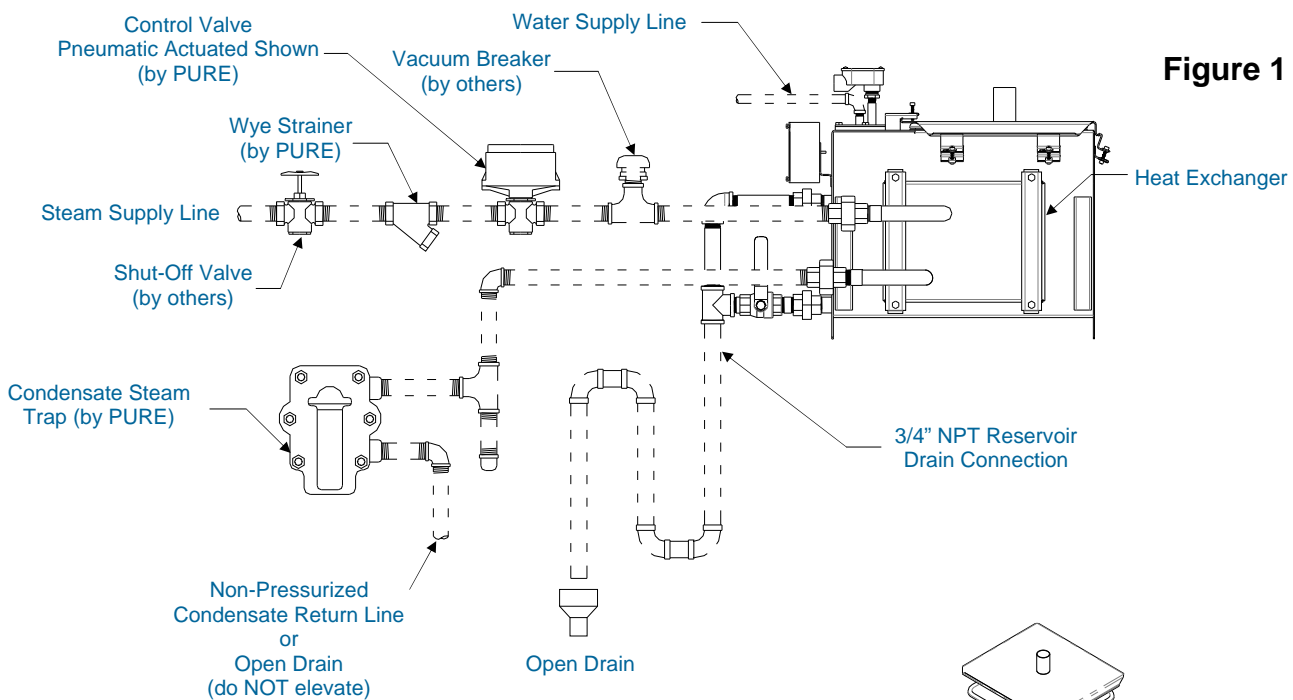

Figure 1
4. A shut-off valve must be installed in the steam supply line prior to the wye strainer (valve by others). Reference Figure 1.